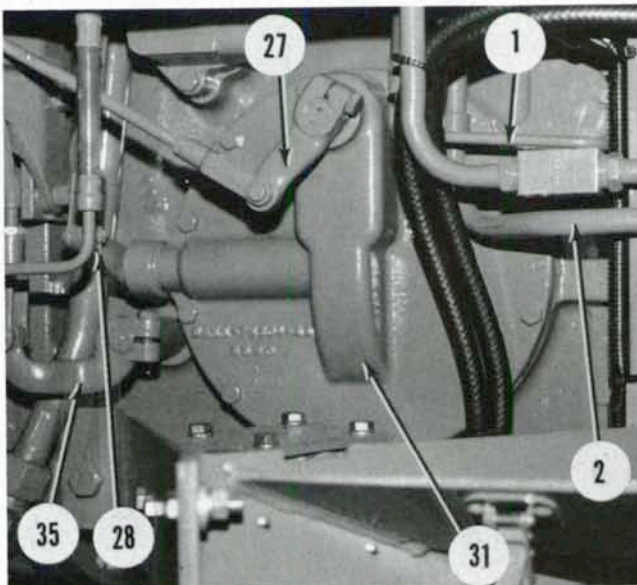

Fig. 202—View of transmission gearshift cover and control linkage.
**151. R&R AND OVERHAUL.** To remove gearshift cover (31—Fig. 202), first drain oil from transmission case. Remove battery and battery box. Remove Dual Power (if so equipped) oil pressure line (1) and lubricant cooler inlet line (2). Shift transmission into neutral, then disconnect interlock control rod (28) and gearshift control rod (27). Unbolt and remove shift cover assembly from transmission case.